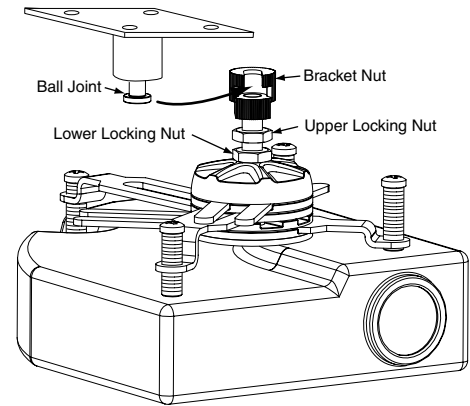

Figure 3
- ③ Attach bracket and projector to Aero column (see separate instructions and Fig. 3).